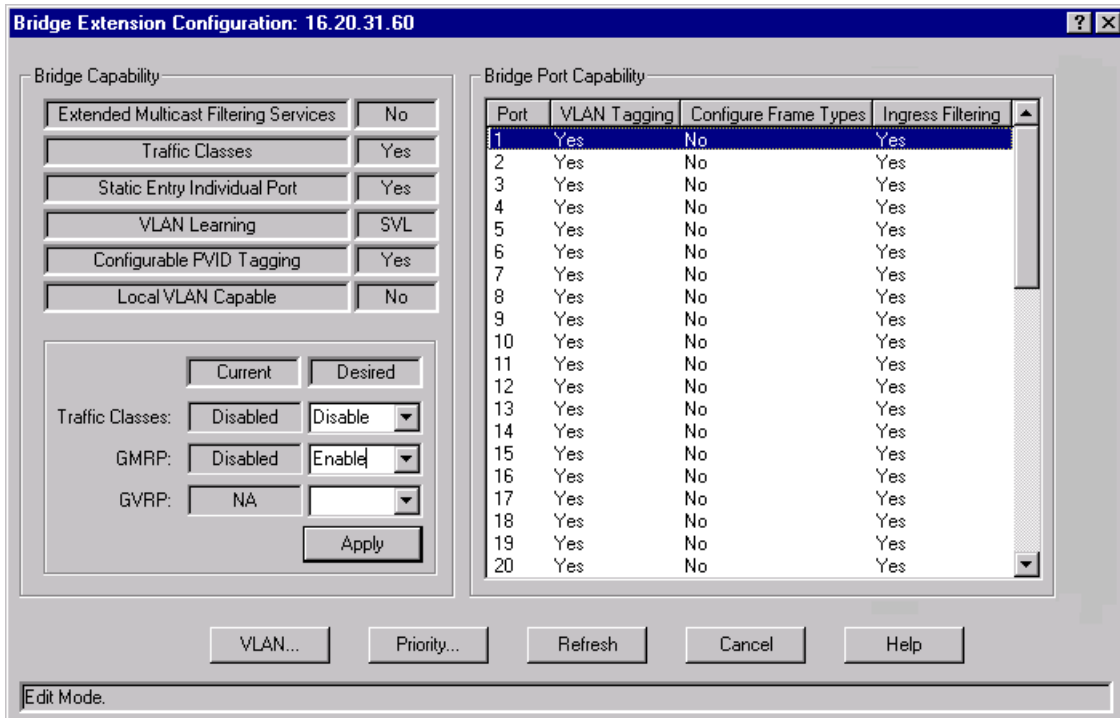

Figure 2-28. The Bridge Extension Configuration Window
1. In the Device View, select **Bridge Extension Configuration...** from the Device menu. The Bridge Extension Configuration window, Figure 2-28, appears.